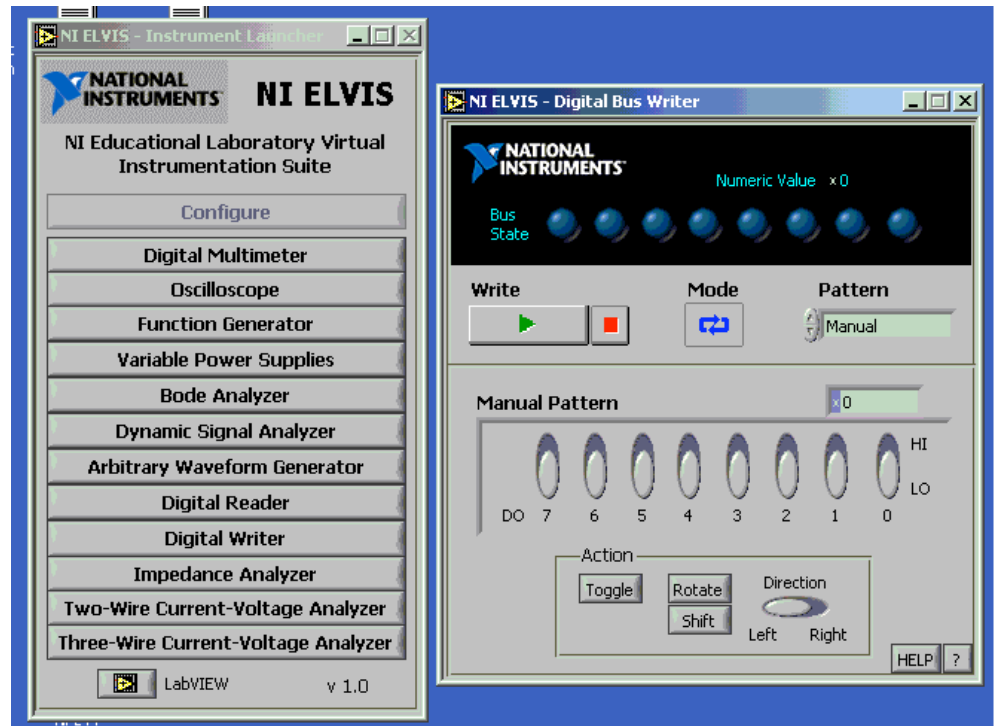

Figure 3. Digital Writer
- Click the **Digital Writer** on the **NI ELVIS** software, as figure 3 shown. Set DO 0 and DO1 as shown in table 1, observe the output of the LED 0. If LED 0 light is on, that means logic 1, and if it is off that means logic 0. Whenever set a digital value of DO 0 and DO 1, click **Write** to write the logic value to DI 0 and DI 1 of the prototyping board.